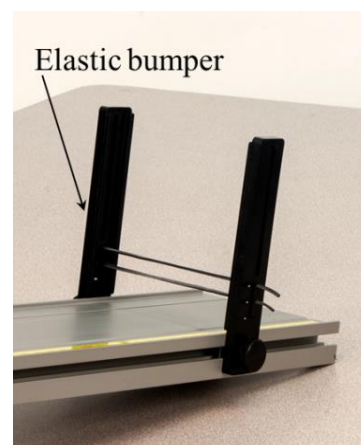

Figure 2: Elastic Bumper
2. Install the fixed End Stop at the top of the incline (see Figure 1), and an Elastic Bumper at the bottom, using at least two pieces of elastic (see Figure 2).